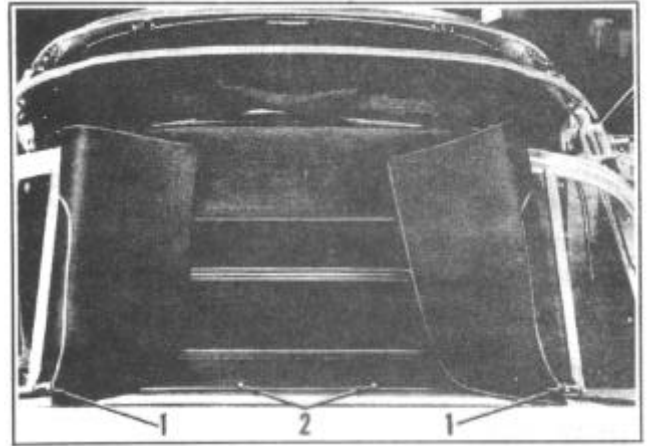

FIGURE 171
2. Insert two sharp-pointed tools thru the two outer screw holes at the bottom of the rear curtain and into corresponding two screw holes in the body at belt line, Figure 171. Remove the tools and install the two Phillips head screws at 1 and the two screws at 2. (This procedure will position and center the rear curtain for tacking at the top rear bow.) Pull the rear curtain straight and snug to top rear bow